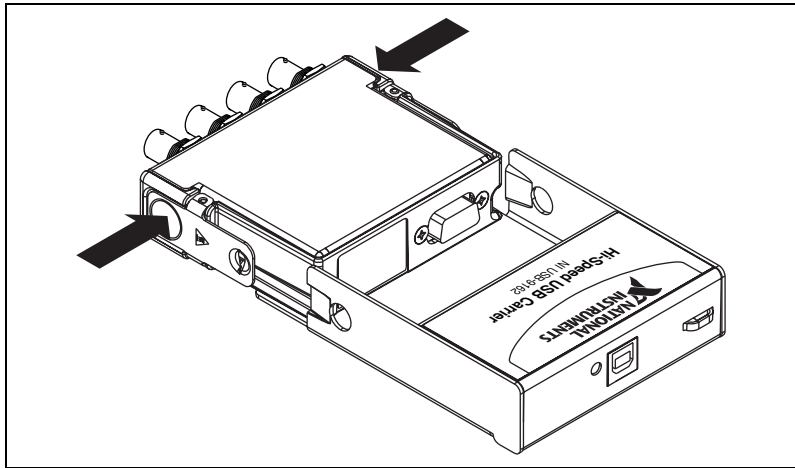

Figure 3. Module Installation
The NI 9234 module and NI USB-9162 carrier are packaged separately. Refer to Figure 3, while completing the following assembly steps:
3. Align the I/O module with the carrier, as shown in Figure 3.